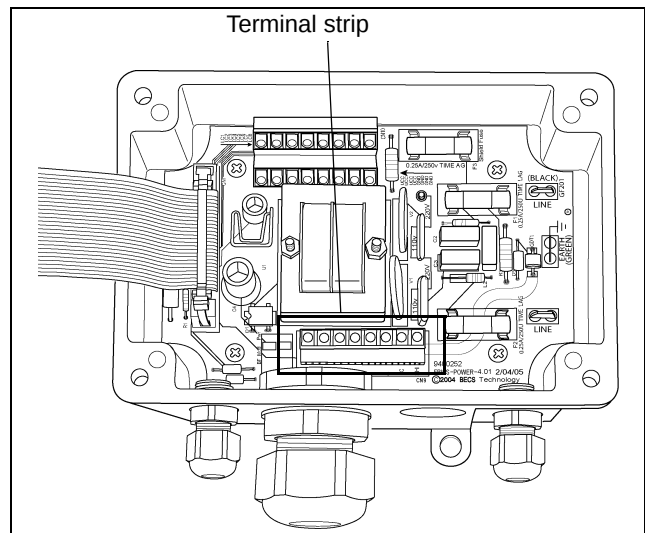

Figure 8A Removing Terminal Strip from Board
- b. Remove terminal strip. (See Figure 8A.)